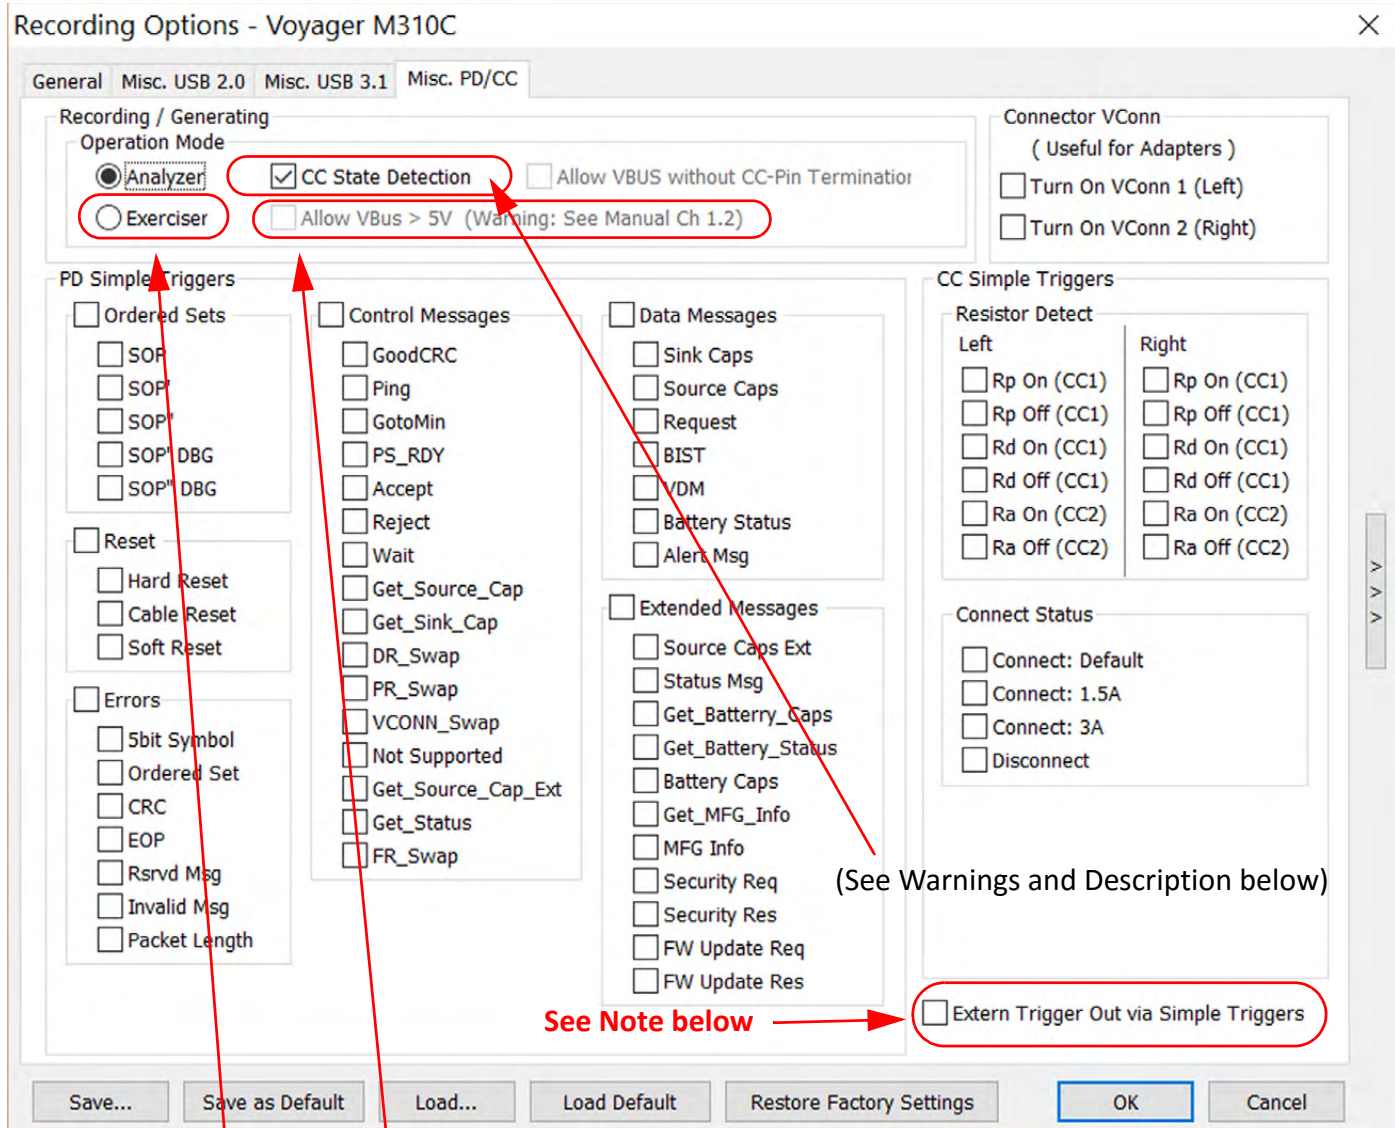

Figure 10.14: Voyager M310C: Recording Options for PD and CC Events
The Simple Trigger Options for Power Delivery (PD) and Configuration Channel (CC) events are shown in Figure 10.14 on page 380.